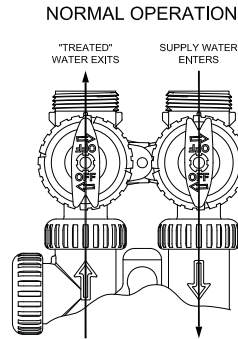

figure 1
1. Normal Operation Position: The inlet and outlet handles point in the direction of flow indicated by the engraved arrows on the control valve. Water flows through the control valve during normal operation and this position also allows the control valve to isolate the media bed during the regeneration cycle. (see figure 1)
When water is flowing steadily to drain without the presence of air, momentarily press **REGEN** again. Display will read **RINSE**. Open the outlet valve of the softener, or if using optional bypass place to **NORMAL OPERATION MODE** (see figure 1 on page 4). Allow control to finish the **RINSE** cycle. Allow the control to automatically advance to the **FILL** position. Close inlet valve then repeat above steps for the second softener tank. When the **FILL** cycle is reached, press **REGEN** to advance to the **SOFTENING** position. Now load the brine tank with salt. Solar Salt is recommended. The brine tank salt level should be checked every couple of weeks to determine salt usage. Keeping the brine tank salt level at least 1/2 full is recommended.